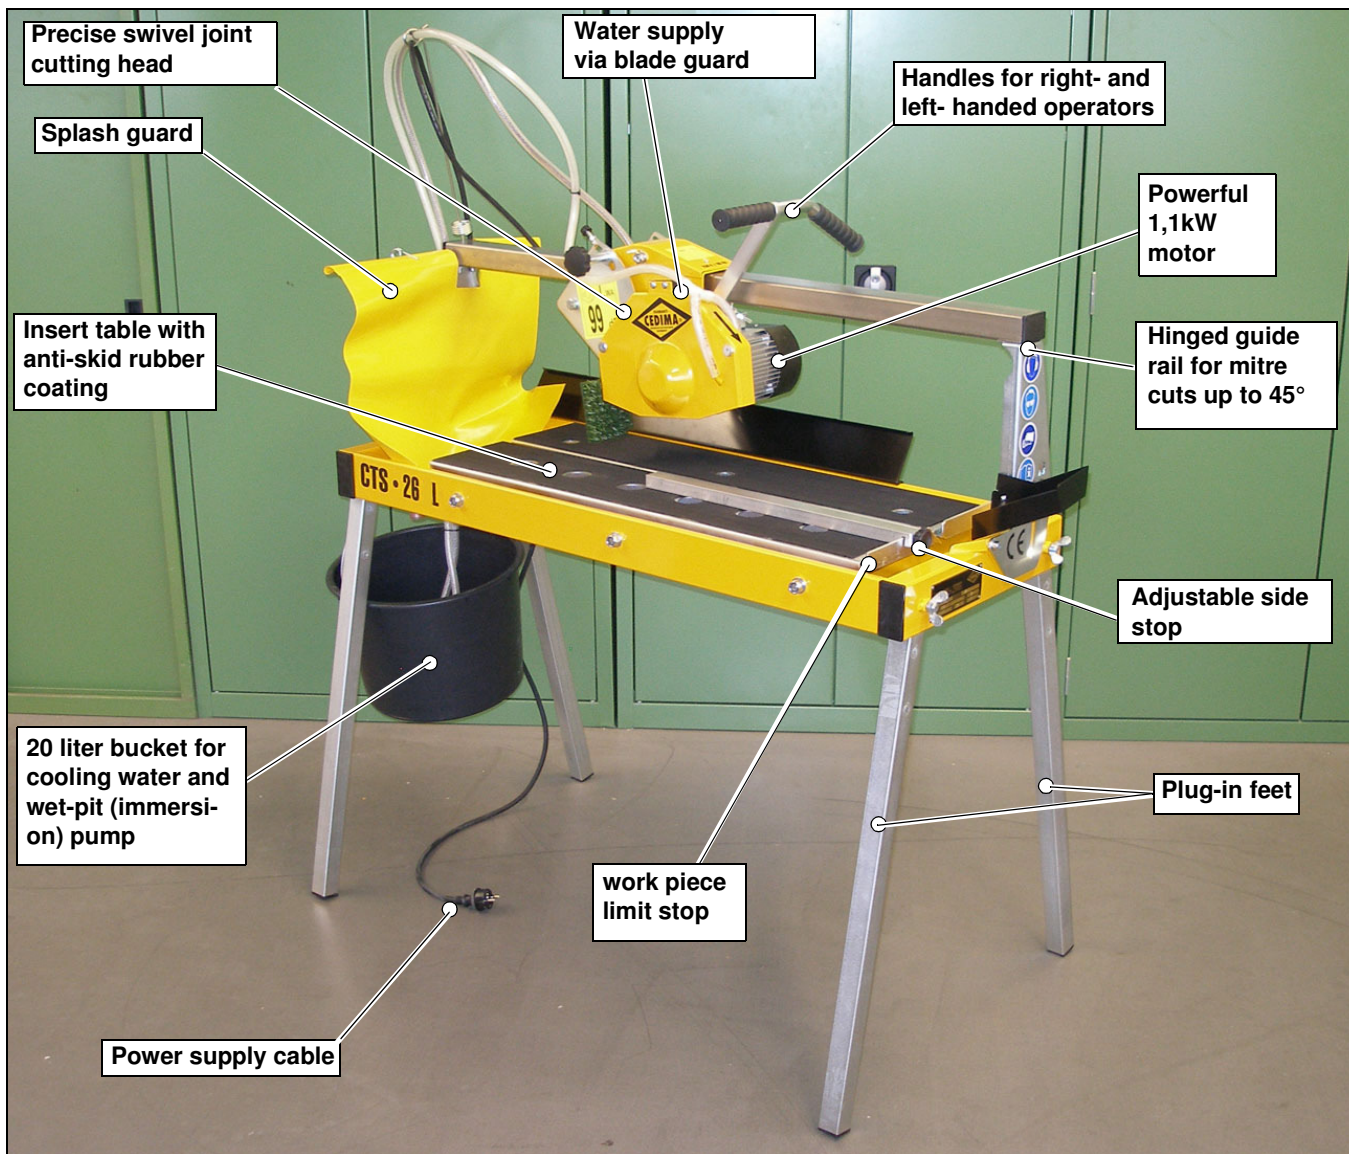

Fig. 1.1 Features of the table saws series CTS•26, shown CTS•26 L
- The table saws CTS•26, CTS•26 L and CTS•26 XL vary from each other by different cutting length (650 mm, 850 mm und 1150 mm, Fig.1.1 and 1.2).